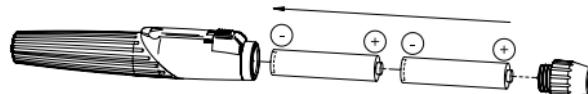

Fig. 3
Unscrew the head piece (3) and shake out the batteries. Insert new batteries with the plus contact facing the handle head (Fig. 3).